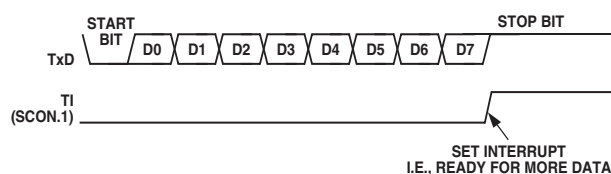

Figure 52. UART Serial Port Transmission, Mode 1
Transmission is initiated by writing to SBUF. The “write to SBUF” signal also loads a 1 (stop bit) into the ninth bit position of the transmit shift register. The data is output bit by bit until the stop bit appears on TxD and the transmit interrupt flag (TI) is automatically set as shown in Figure 52.